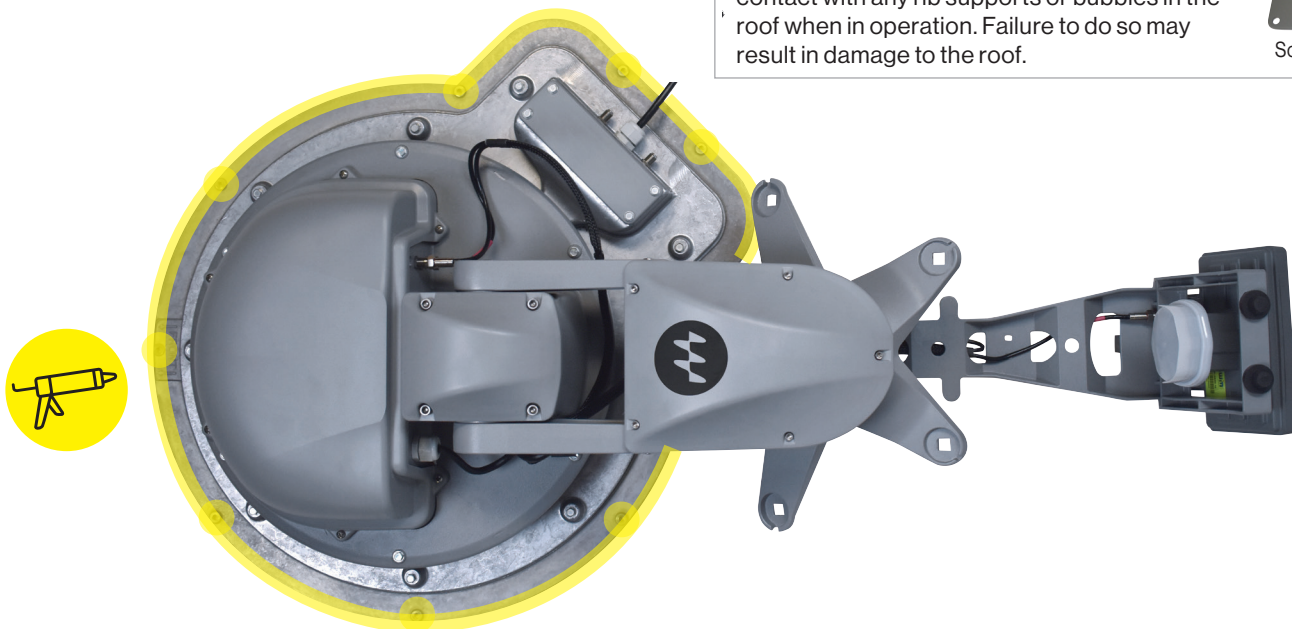

FIGURE 6. Area to apply sealant; cover screw heads; no sealant above the transition plate
6. Run a solid bead of sealant around the edge where the transition plate meets the roof, making sure to cover each screw head. Be careful not to get any sealant above the transition plate (see figure 6).